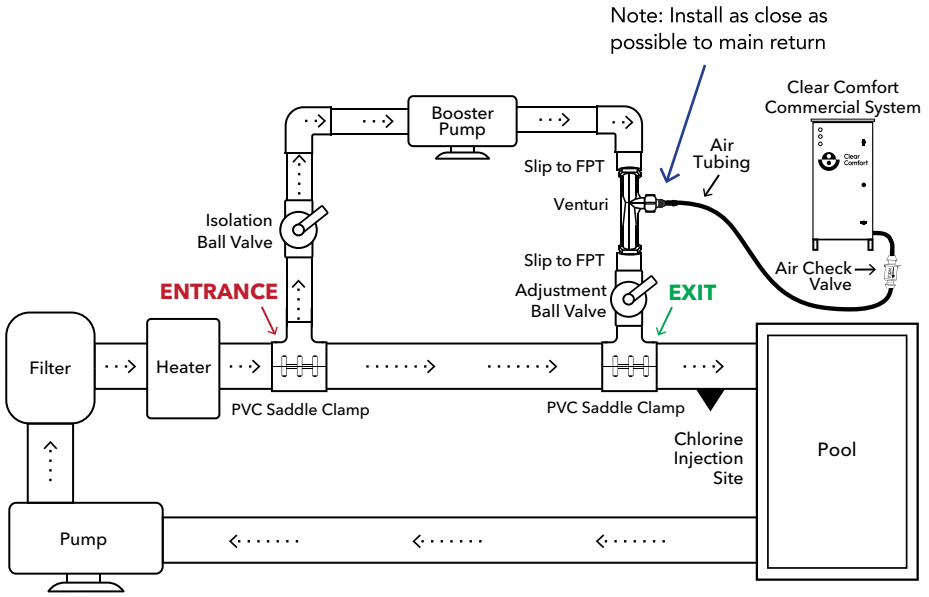

Figure 1:
3. Locate section of existing plumbing in which you choose to install the ENTRANCE leg connecting the main line of flow to the venturi bypass pump. See Figure 1 on previous page - please note: entrance leg may be positioned after the heater.
4. Locate section of existing plumbing in which you choose to install the EXIT leg from the venturi bypass. Location should be in any accessible area after the filter and heater (if equipped) on the main line as water is returning to the pool, and BEFORE the chlorine/ bromine injection site. See Figure 1 on previous page for location.